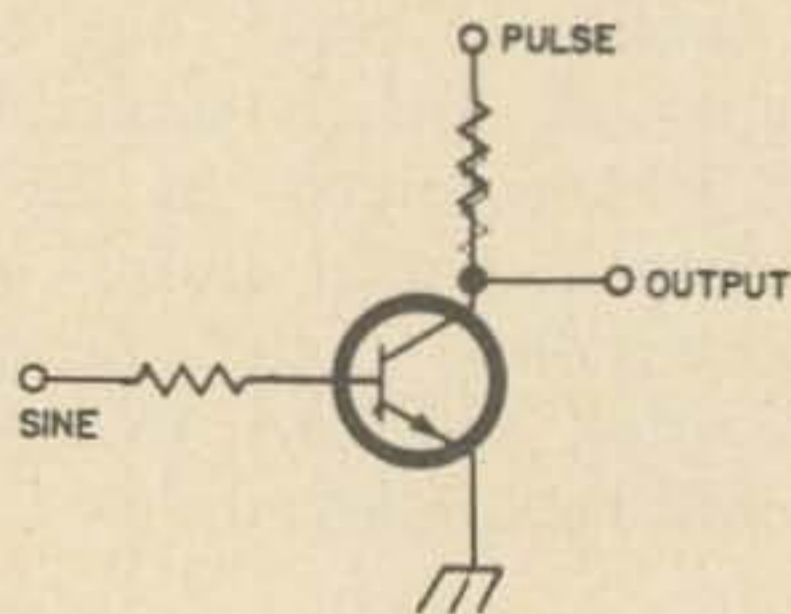

Fig. 2. The simplest and cheapest pulse modulator; however, there is a dc component in the output.
**Fig. 2.** Series diodes determine applied voltage polarity that will operate the crystal-can relays. With added capacitors, relays will operate reliably on ac, which is applied during some Station Control settings. Note relays switch both sides of the crystal circuit.
Immediately when I thought about a burst generator, I decided on the circuit of Fig. 2.
And here are the parts not described in the schematic of Fig. 2. This will answer questions about transistor and diode types, and the values of C1, C2, and C3: